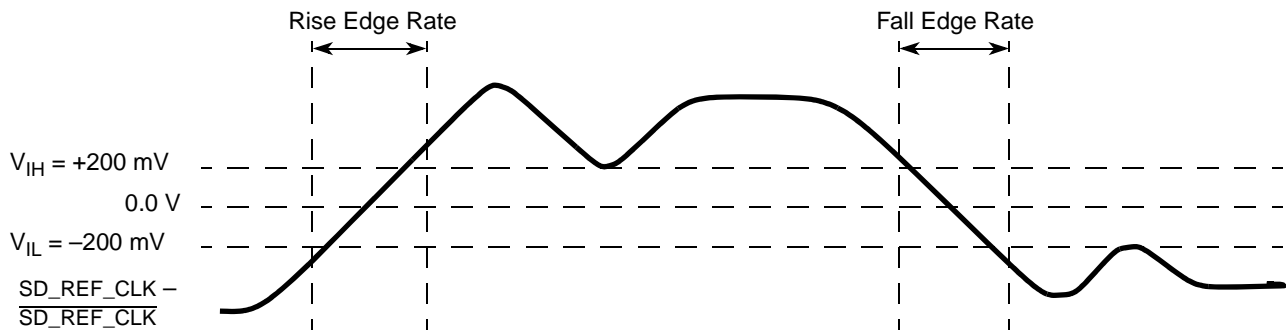

Figure 43. Differential Measurement Points for Rise and Fall Time
signal trace curve in a differential waveform. The voltage represented in the differential waveform is not referenced to ground. See Figure 43 as an example for differential waveform.
- Measured from -200 mV to +200 mV on the differential waveform (derived from SD_REF_CLK minus $\overline{\text{SD}}_n$ _REF_CLK). The signal must be monotonic through the measurement region for rise and fall time. The 400 mV measurement window is centered on the differential zero crossing. See Figure 43.